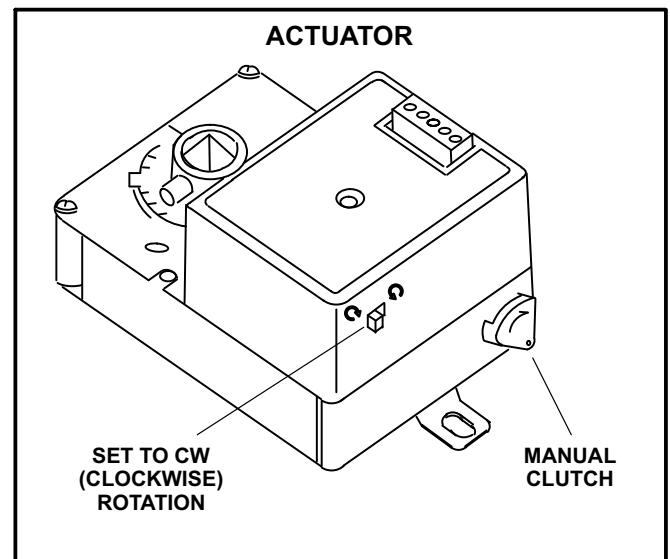

FIGURE 4
- 2- Locate the actuator clutch. See figure 4.
- 4- Move rotation direction switch on actuator to the clockwise rotation position. See figure 4.